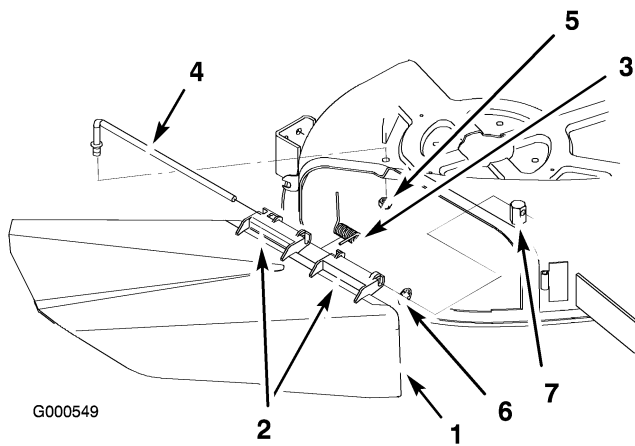

Figure 52
1. Locate items shown in Figure 52.
2. Remove the nut (3/8 inch) from the rod under the mower (Figure 52).
3. Slide the rod out of the short stand-off, internal lock washer, spring, and grass deflector (Figure 52). Remove the damaged or worn grass deflector.
4. Replace the grass deflector and internal lock washer (Figure 52).
6. Place the spring on the rod, with end wires down, and between the grass deflector brackets. Slide rod through second grass deflector bracket and internal lock washer (Figure 52).
7. Insert rod at front of grass deflector into short stand-off on deck. Secure rear end of rod into the mower with a nut (3/8 inch) (Figure 52).